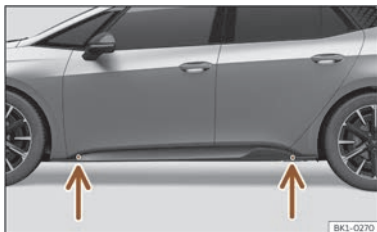

Fig. 212 Jack position points.
- Look on the crossbar for the mark of the jack support point (sunken area) closest to the wheel to be changed >>> Fig. 212.